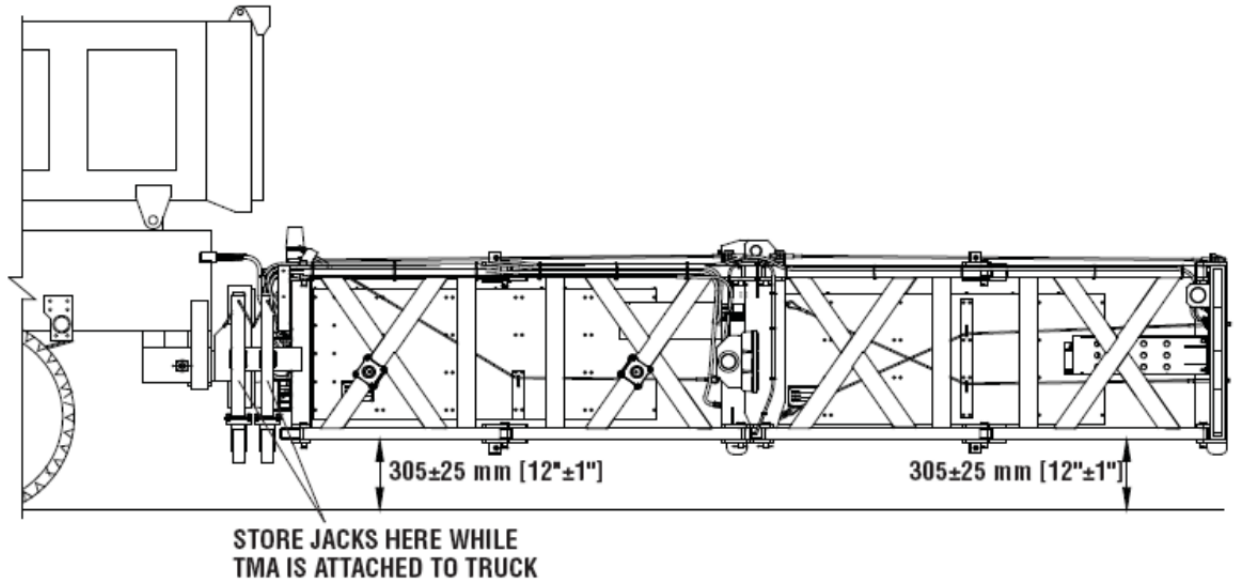

Figure 3
1. The TMA shall be rigidly fastened to the truck. In the horizontal position, the bottom of the TMA shall be 280 to 330 mm [11" to 13"] from the ground and level (See Figure 3). The TMA must be left in the unfolded position whenever possible. The TMA can only absorb the energy of an impacting vehicle when in the unfolded position.
2. Jacks shall be used to support the TMA when it is detached from the truck. The Jacks must be stored while the TMA is attached to the truck. The Jacks can be stored on the brackets provided on the support frame (See Figure 3).